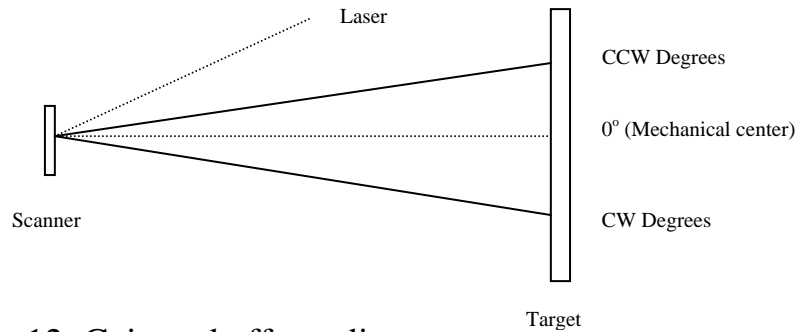

Figure 12: Gain and offset adjustment
- Clamp the mirror or load to the galvo shaft. Reflect a laser beam from the load onto a calibrated optical target, as shown in figure 12.